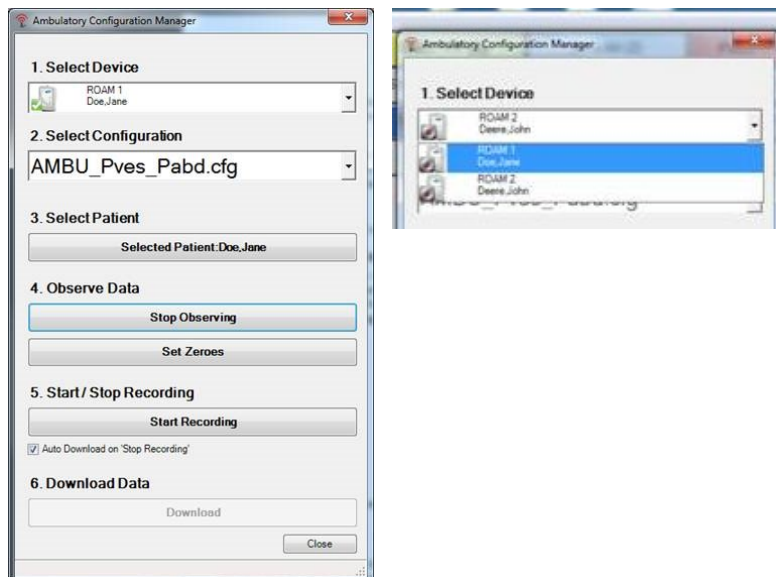

Figure 101: Ambulatory Configuration Manager Window
6. Click **Observe** under section 4 to view the *Pretest* window for verification of pressures. Refer to Figure 101.
- Click **Start Recording** under section 5 of Figure 101 to start ambulatory monitoring. Alternatively, ambulatory monitoring can be started outside of the observation mode by clicking **Stop Observing**, then clicking **Start Recording**. The **UDS Roam™** icon will alert that it is in recording mode:
- The patient is now in ambulatory mode and pressure recording begins. Click **Close** to exit the *Ambulatory* window (Figure 101).
- Once Ambulatory recording is complete download all information by clicking the **download button** in section 6 of Figure 101.